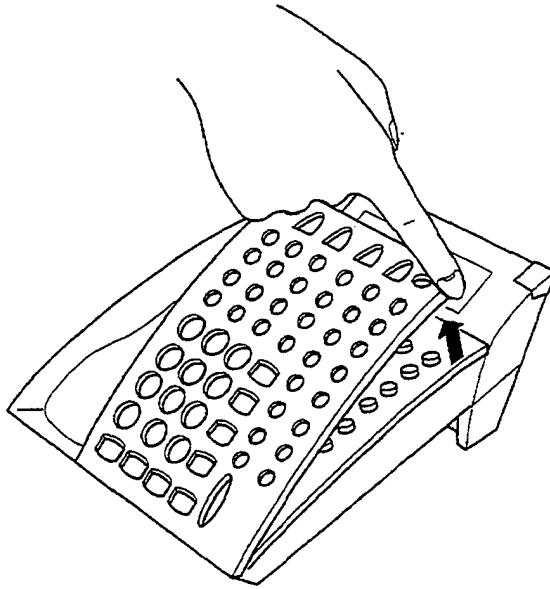

Figure 1-47 Removing the Plastic Panel from the Multiline Terminal
3. Press the top right side of the plastic panel toward the handset, and raise the panel to remove it. Refer to Figure 1-47 - Removing the Plastic Panel from the Multiline Terminal.